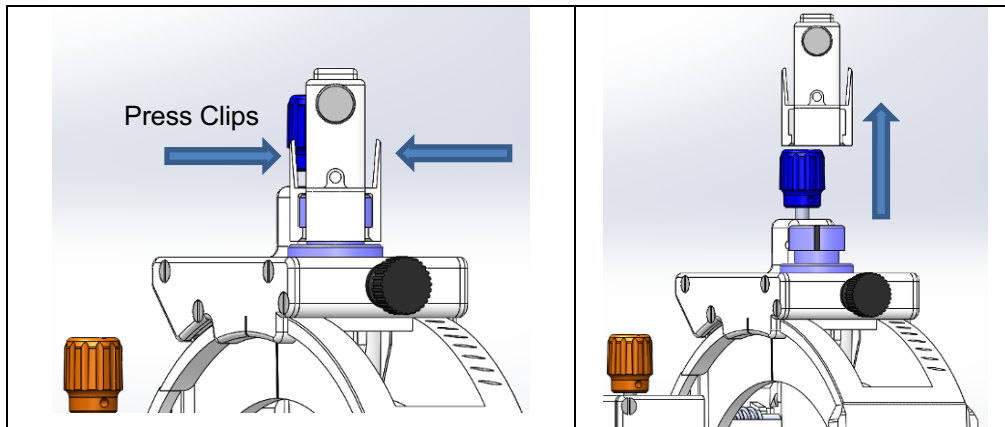

Figure 39: Removing the Dock and Lock
3. Remove the Dock and Device Lock Assembly by squeezing the clips to separate it from the SMARTFrame Array. **See Figure 39.**